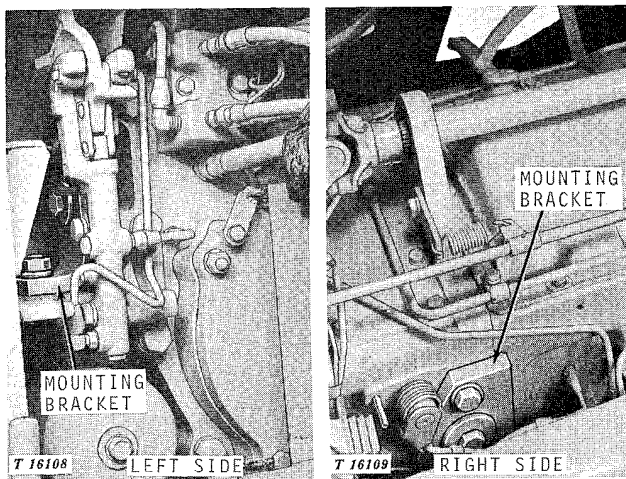

Fig. 9-Transmission Attaching Points
7. Remove transfer case rear mounting brackets (Fig. 9) and lift transmission-clutch housing assembly up so that brake valve can be removed.
Tighten transfer case to rear mounting bracket cap screws to specified torque (Fig. 9).